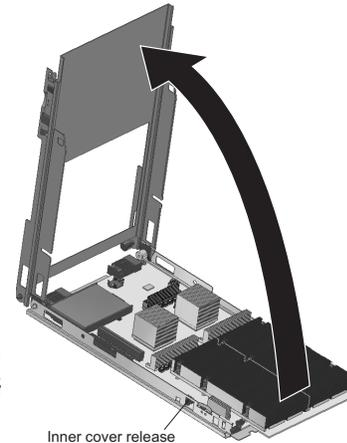
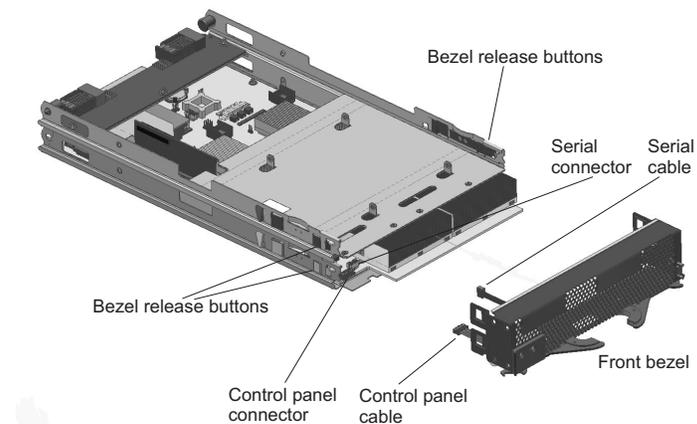

Figure 7. Opening the blade server cover
Figure 8. Removing the bezel assembly
3. Press the blue blade-cover release on each side of the blade server and lift the outer cover open (see Figure 7, step 1).
4. Lift the cover from the blade server and set it aside (see Figure 7, step 2).
5. Remove the second power board (see Figure 7, step 3).
7. Press the two front bezel release buttons on each side of the server and remove the front bezel assembly (see Figure 8 on page 45 and Figure 7, step 3).
8. Press the blue blade-cover release on each side of the blade server and lift the inner cover open (see Figure 7, step 4).